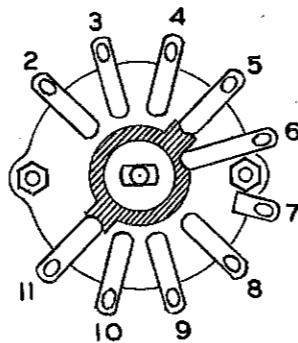
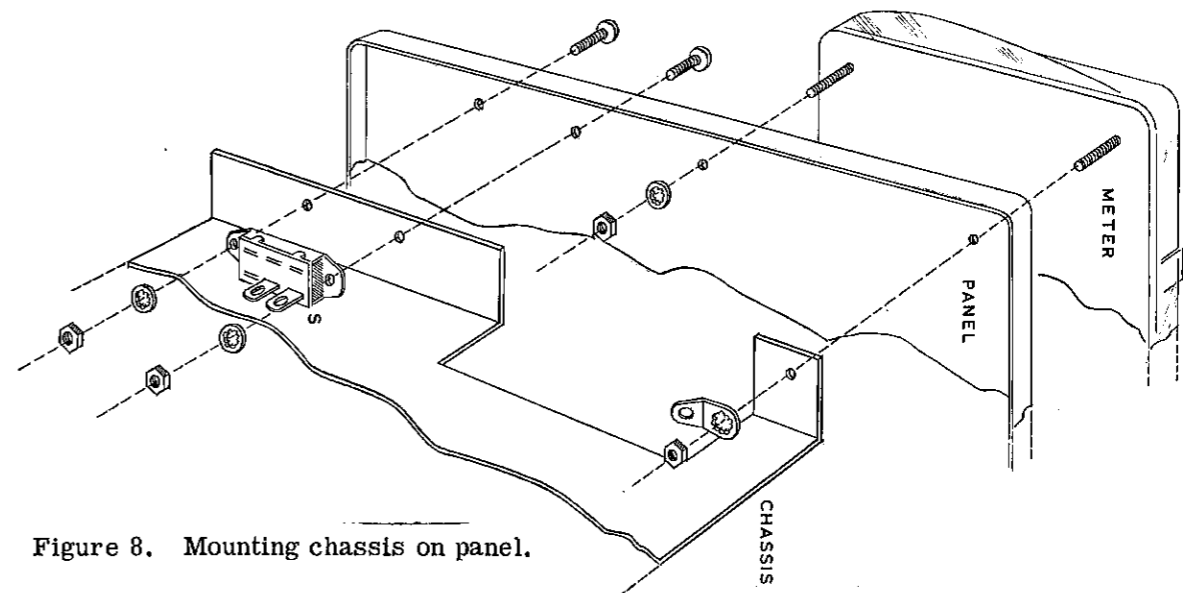

Figure 6. Range switch terminal numbering.
Figure 8. Mounting chassis on panel.
- () Connect one lead of a 0.1 μfd plastic tubular condenser to R2 on the range switch (S). Refer to Figure 6 for numbering of contacts on the switch. Any "outside foil" or "ground" markings on paper capacitors can be disregarded. They may be connected with either "polarity."
- () Connect the other lead of the condenser to N2 (NS).
- () Connect one lead of a 0.01 μfd plastic tubular condenser to R3 on the range switch (S).
- () Connect one lead of a 1000 μμf (.001 μfd) mica condenser to R4 of the range switch (S).
- () Connect one lead of a 100 μμf (.0001 μfd) mica condenser to R5 of the range switch (S).
- () Connect the other lead of the condenser to N2 (S).
- () Mount the chassis on the panel using the meter screw in location MG for the top bracket of the chassis. Under the nut mount a #6 solder lug. Refer to Figure 8.
- () Mount the SPST slide switch in location S. Use 6-32 screws, lockwashers and nuts. These screws pass through the panel, chassis and switch. Refer to Figure 8.